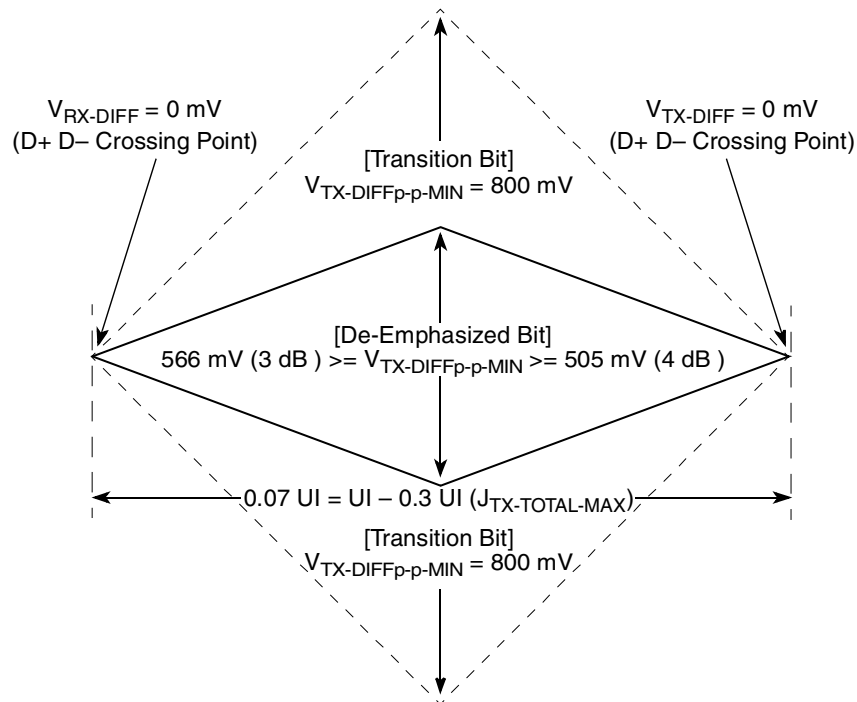
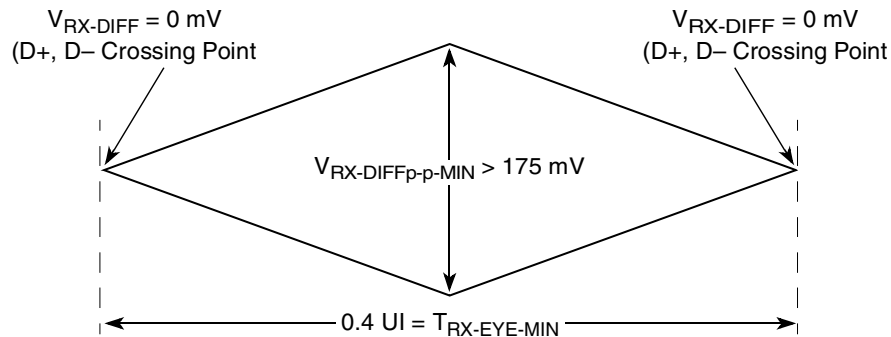
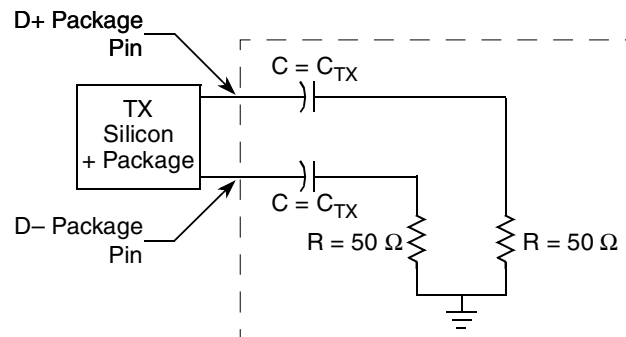

Figure 69. Minimum Transmitter Timing and Voltage Output Compliance Specifications
Figure 70. Minimum Receiver Eye Timing and Voltage Compliance Specification
Figure 71. Compliance Test/Measurement Load
The TX eye diagram in Figure 69 is specified using the passive compliance/test measurement load (see Figure 71) in place of any real PCI Express interconnect + RX component.
2. Specified at the measurement point and measured over any 250 consecutive UIs. The test load in Figure 71 should be used as the RX device when taking measurements (also refer to the Receiver compliance eye diagram shown in Figure 70). If the clocks to the RX and TX are not derived from the same reference clock, the TX UI recovered from 3500 consecutive UI must be used as a reference for the eye diagram.
4. The Receiver input impedance shall result in a differential return loss greater than or equal to 15 dB with the D+ line biased to 300 mV and the D- line biased to -300 mV and a common mode return loss greater than or equal to 6 dB (no bias required) over a frequency range of 50 MHz to 1.25 GHz. This input impedance requirement applies to all valid input levels. The reference impedance for return loss measurements for is 50 ohms to ground for both the D+ and D- line (that is, as measured by a Vector Network Analyzer with 50 ohm probes - see Figure 71). Note: that the series capacitors CTX is optional for the return loss measurement.
The RX eye diagram in Figure 70 is specified using the passive compliance/test measurement load (see Figure 71) in place of any real PCI Express RX component.
Note: In general, the minimum Receiver eye diagram measured with the compliance/test measurement load (see Figure 71) will be larger than the minimum Receiver eye diagram measured over a range of systems at the input Receiver of any real PCI Express component. The degraded eye diagram at the input Receiver is due to traces internal to the package as well as silicon parasitic characteristics which cause the real PCI Express component to vary in impedance from the compliance/test measurement load. The input Receiver eye diagram is implementation specific and is not specified. RX component designer should provide additional margin to adequately compensate for the degraded minimum Receiver eye diagram (shown in Figure 70) expected at the input Receiver based on some adequate combination of system simulations and the Return Loss measured looking into the RX package and silicon. The RX eye diagram must be aligned in time using the jitter median to locate the center of the eye diagram.
The reference impedance for return loss measurements is 50. to ground for both the D+ and D- line (that is, as measured by a Vector Network Analyzer with 50. probes—see Figure 71). Note that the series capacitors, CTX, are optional for the return loss measurement.